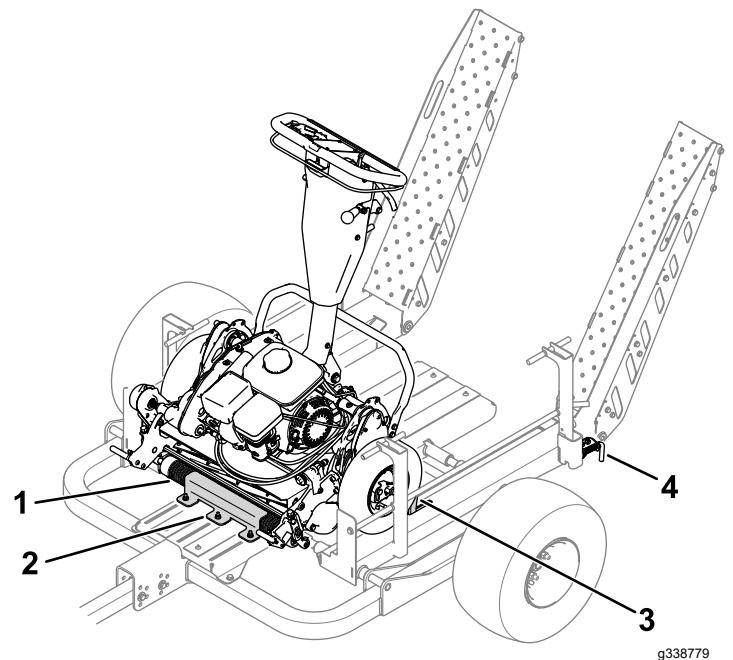

Figure 30
1. Use the flat ramps or rails to slowly drive the machine onto the trailer until the front roller seats within the roller mount (Figure 30).
4. Raise the ramps and engage the latch pins (Figure 30).